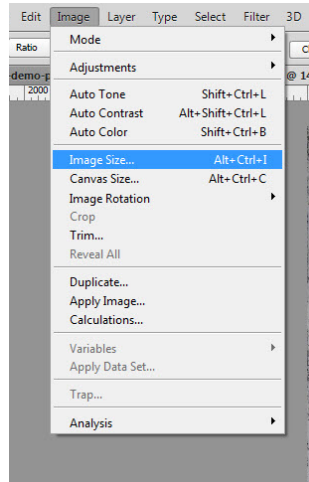

Figure 7
- A final step is to change the image size — go to image, resize and change the dimensions to the plate size in inches, and the dpi to 300. Check allow resampling (Figure 7 and 8).